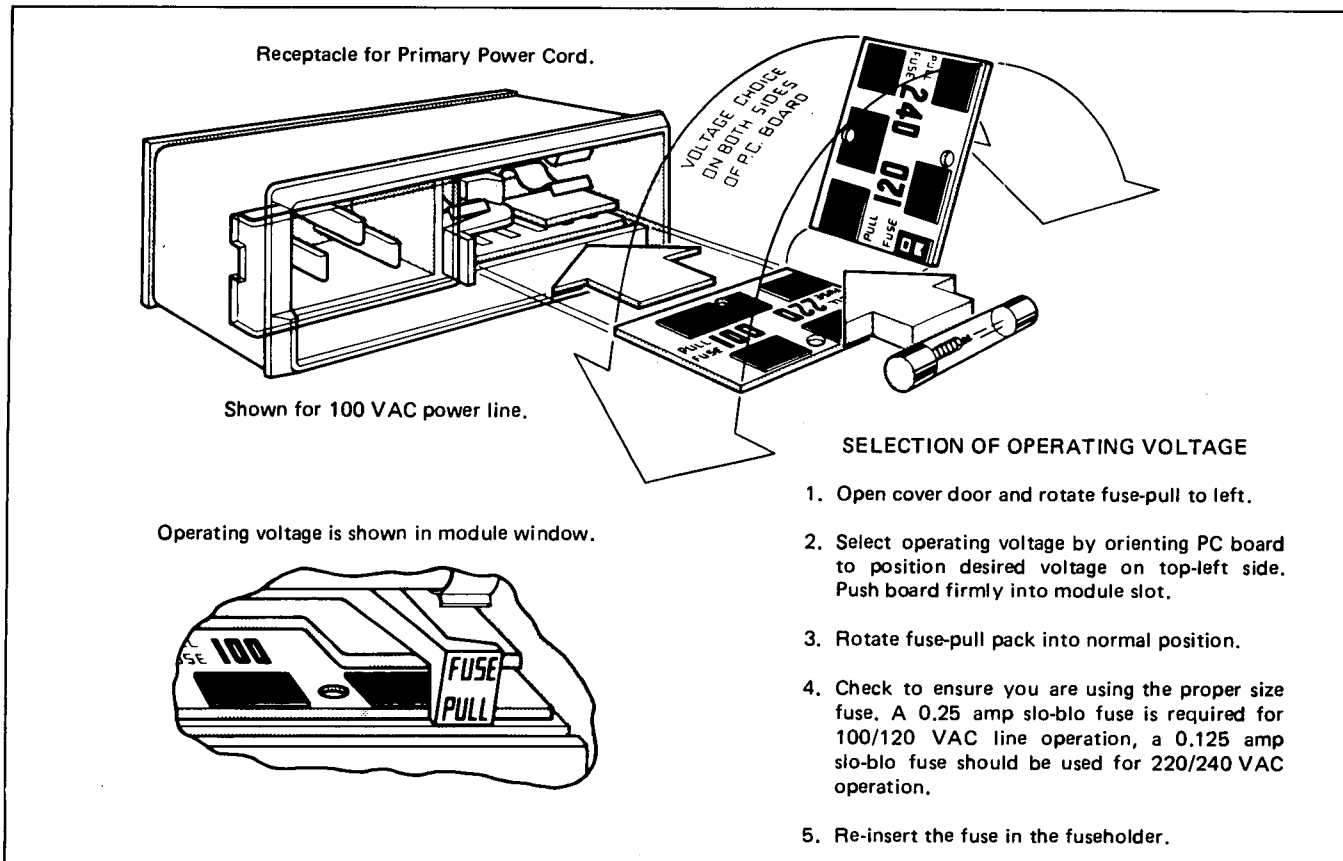

Figure 2-2. Voltage Selection.
2-14. The Test Set can be operated from any power source supplying 100 V ac, 120 V ac, 220 V ac or 240 V ac (- 10% + 5%), 48 Hz to 440 Hz. Power dissipation is 15 VA maximum. The Test Set is set for 120 V operation at the factory. If it is necessary to change the primary voltage setting, refer to Figure 2-2.
*from a 100 V, 120 V, 220 V or a 240 V external ac power source. Ensure that the ac power module is set for the ac voltage used, and the proper fuse is used. For instructions on setting the power module and selecting the fuse, see Section II, Figure 2-2.*